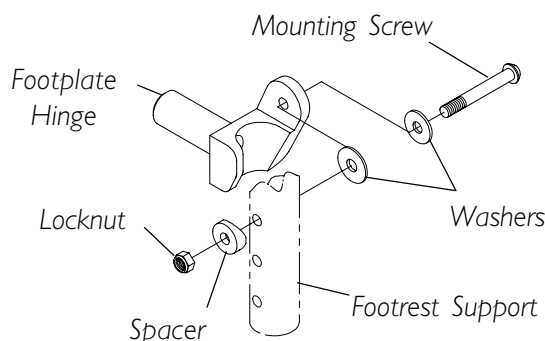

FIGURE 6 - INSTALLING ADJUSTABLE ANGLE FLIP-UP FOOTPLATE HINGE
INSTALLING ADJUSTABLE ANGLE FLIP-UP FOOTPLATE HINGE (FIGURE 6)
2. Position mounting screw, washers, spacer, and locknut on the footrest support as shown in FIGURE 6.